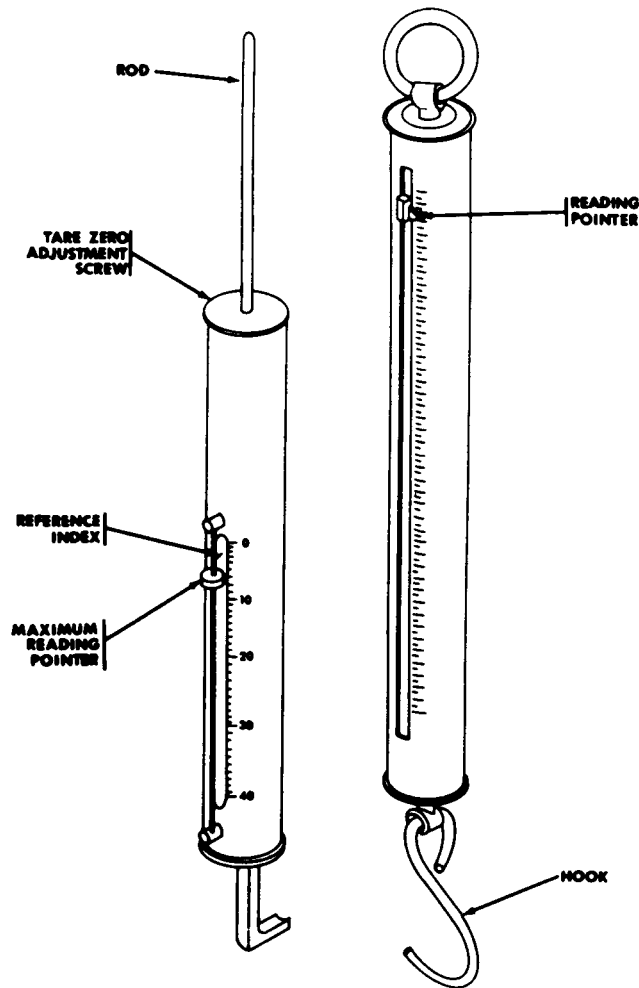

Figure 1. Typical resiliency testers.
1. Test Instrument Identification. This bulletin provides instructions for the calibration of Resiliency Testers (General) (figure 1). The manufacturer's manual was used as the prime data source in compiling these instructions. The equipment being calibrated will be referred to as the TI (test instrument) throughout this bulletin.
b. Adjustments to be reported on DA Form 2416 are designated (R) at the end of the sentence in which they appear. When adjustments are in tables, the (R) follows the designated adjustment. Report only those adjustments made and designated with (R).
- (1) Adjust tare zero adjustment screw (fig. 1) for a zero indication on TI.
- (2) Remove pin from torque calibrator (B1) for weights up to 20 pounds, or (B2) for weights between 20 and 150 pounds) and separate weight carrier assembly from the torque calibrator. Only the weight carrier will be required.
- (3) Note weight of carrier.
- (4) Obtain a 6-inch length of line or wire capable of supporting total weight to be used in calibrating TI.